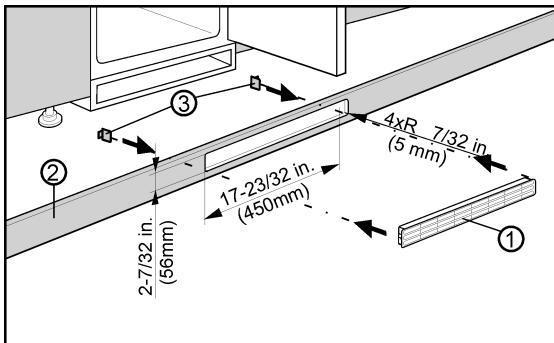

Fig. 6
Ventilation through the cabinet base at the bottom can be achieved by installing the provided ventilation grille *Fig. 6 (3)* or via a ventilation opening of at least 31 in^2 (200 cm^2). When using the provided ventilation grille *Fig. 6 (3)*, please proceed as follows:
- ▶ Insert ventilation grille Fig. 6 (3) into the cabinet base cut-out Fig. 6 (1).